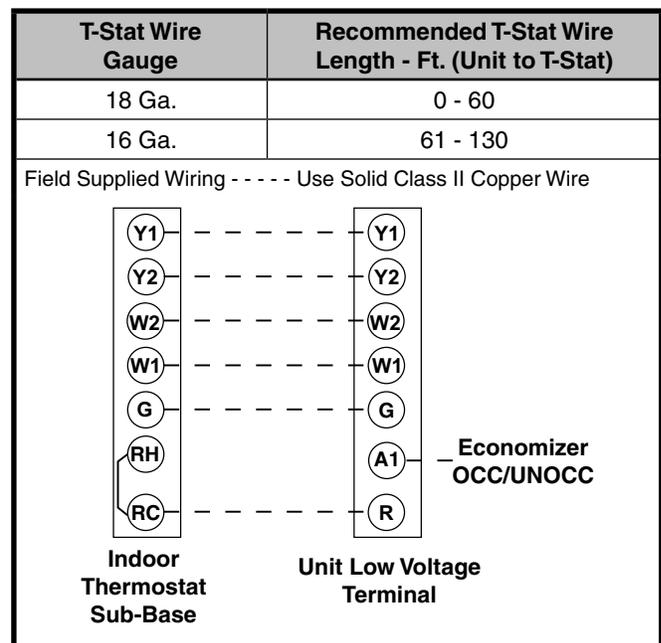

Figure 10. Typical 2 - Stage Heat/Cool Thermostat Connection
- A two-stage heating/cooling thermostat is required for R6GP series units. Select a thermostat which operates in conjunction with the installed accessories. See Figure 10 for proper wire gauge and their recommended lengths for typical thermostat connections.
- The low voltage wires must be properly connected to the units low voltage terminal block. Route 24V control wires through the gas furnace side of the unit. Recommended wire gauge and wire lengths for typical thermostat connections are shown in Figure 10.